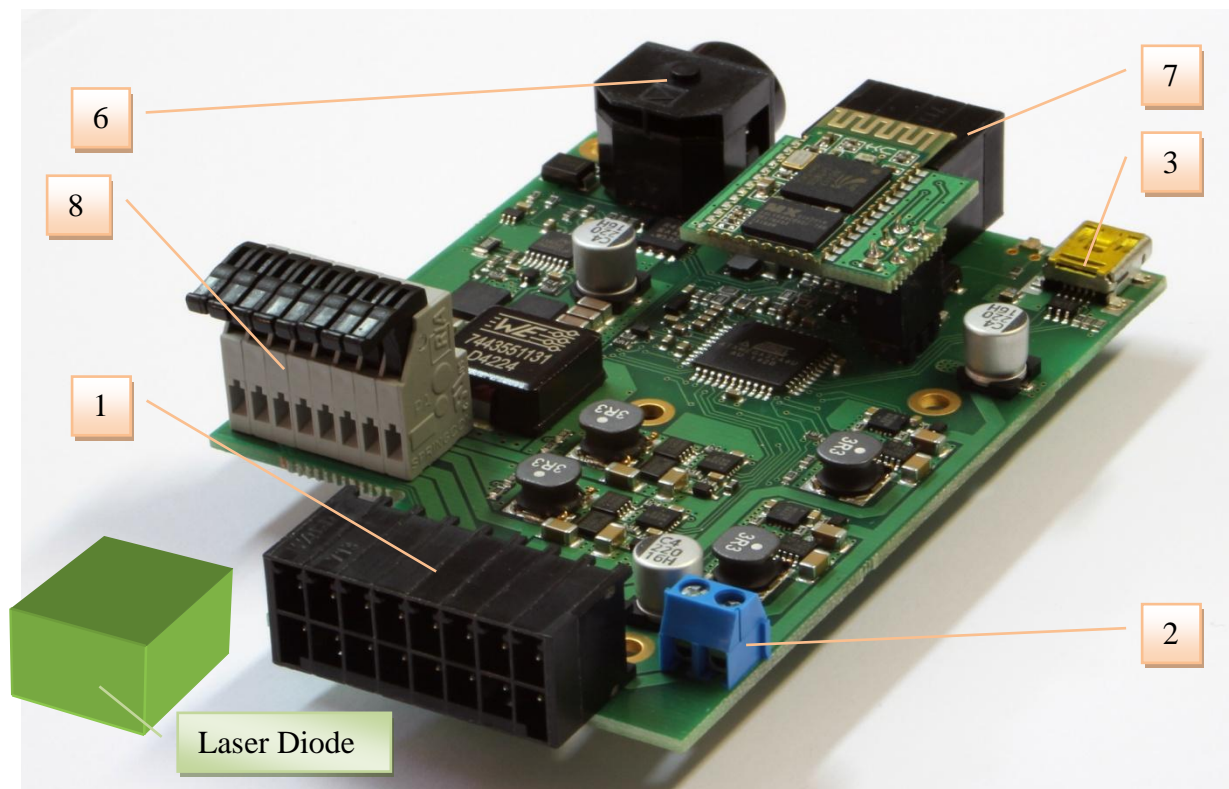

Figure 3. Back view
30. External Pulse: the current will change between **B**ase and **T**arget, following the IN-signal at TTL_IN connector (Figure 3). Low level means **B**ase current, high level means **T**arget current.
50. Single Burst: in this mode, the device will operate with a given **N**umber of current pulses and stop afterwards, waiting for a further laser ON signal. That is: user click the Laser ON button or the TTL_IN (Figure 3) goes high in gate mode (s. below).
60. Gate Mode: In modes with internal pulse generation, the TTL input connector (Figure 3) can be used to turn the laser on or off. This behavior is called gate mode and can be entered using the corresponding button. Please make sure, that the external pulse frequency is much lower than the laser pulse frequency.